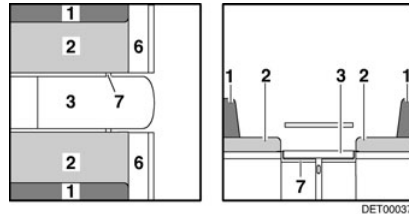

Fig. 42 During conversion
- Fold up the bench seat extension (Fig. 42,6) and wedge it with the flap.